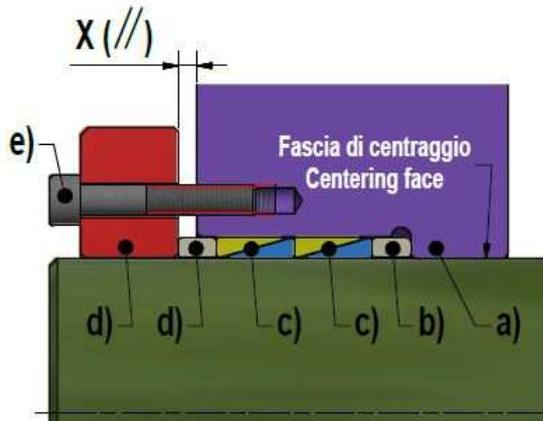

Fig. 4. Example of mounting sequence.
- The hub must be provided with a centering face to allow good concentricity of the connection, since the Locking Element is not self-centering (fig. 4).
- Install the parts in the following sequence (fig. 4).
! The distance (**X**) between thrust ring and hub or shaft end **shall never be zero and be uniform** around the circumference (fig. 4). **Better centering of hub from the beginning of installation is essential for better centering when installation is completed.**
! 7. **Check the distance (X) (fig. 4):** the thrust ring must never contact the face of the hub or shaft end. **Remaining distance shall be uniform** around the circumference.